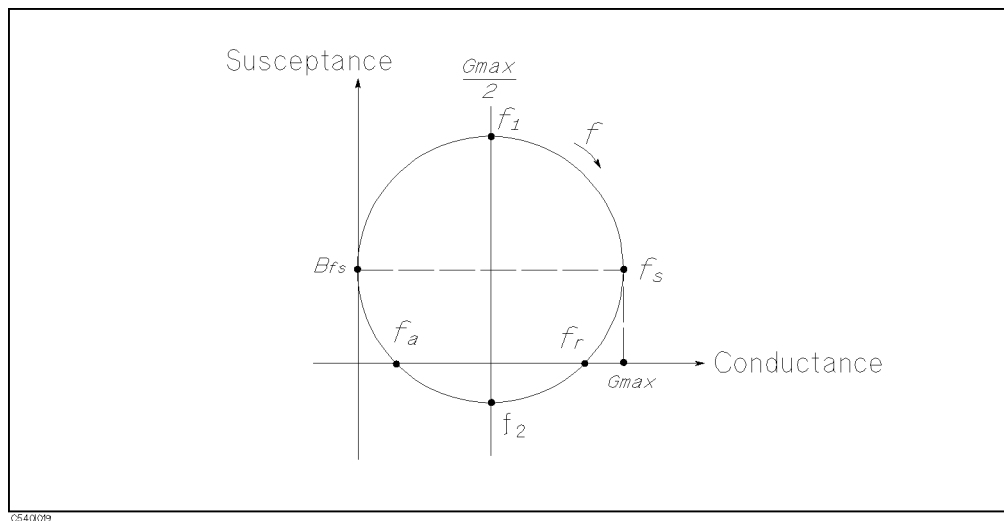

Figure D-19. Admittance Characteristic Circle Diagram
1. Obtains the admittance characteristic circle diagram. (See Figure D-19.)